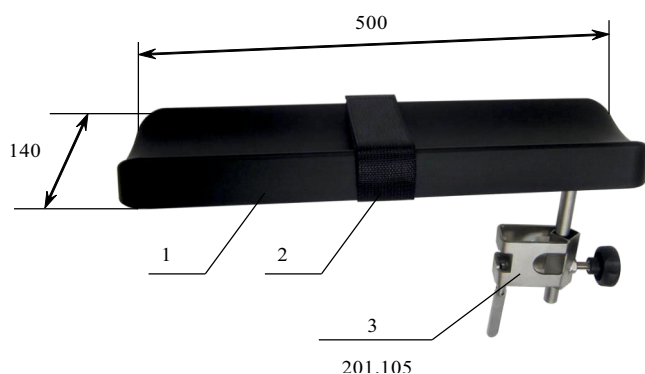

Figure 3. Injection plate.
3. Injection plate (arm support) (Figure 3). Profiled bed 1 is made of molded urethane foam, and stainless mounting elements. It is height-adjustable and rotates around a vertical axis. Equipped with a clip and a restraint strap. The maximum permissible load is 15 kg.